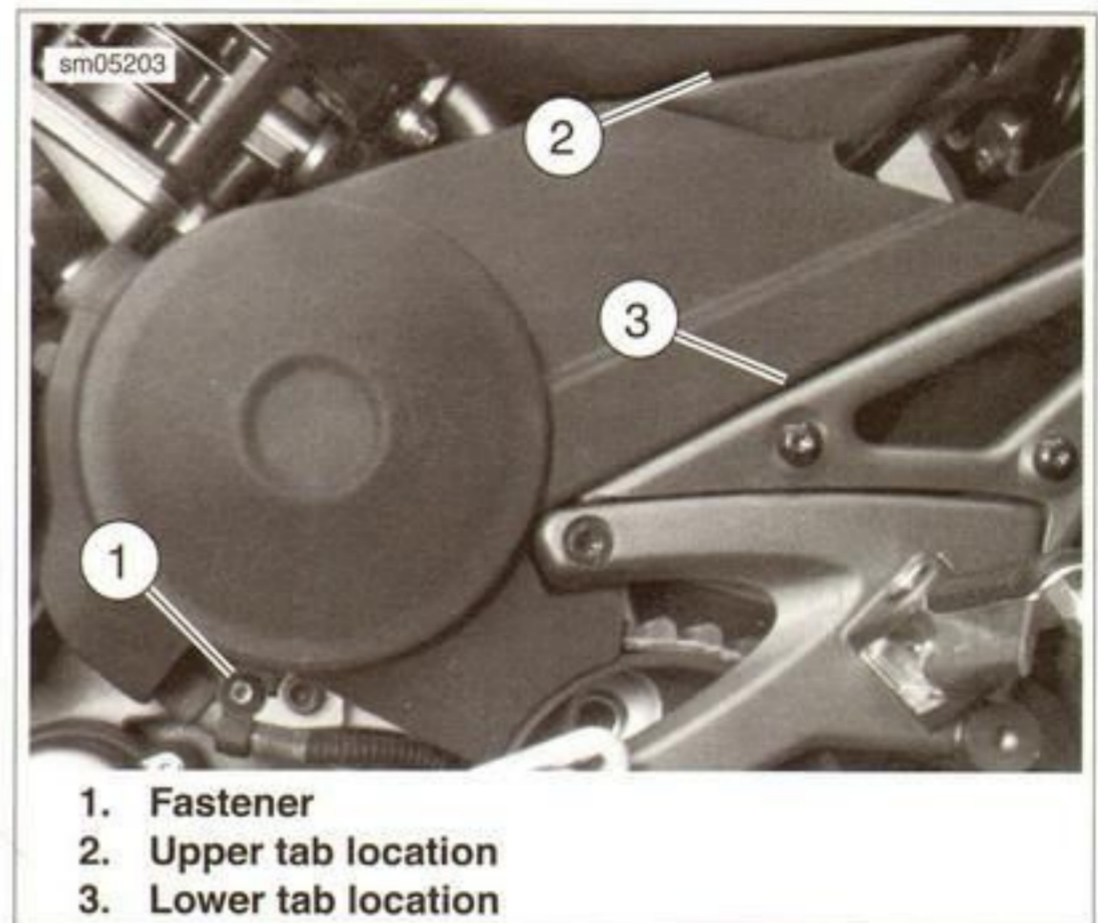

Figure 3-9. Engine Sprocket Cover
1. See Figure 3-9. Remove fastener (1) and remove engine sprocket cover.
- *See Figure 3-9. In next step, be sure upper tab (2) of engine sprocket cover engages frame and lower tab (3) engages rider footpeg support.*
5. Install engine sprocket cover. Install engine sprocket cover fastener (1) and tighten to 13.0-14.5 Nm (115-128 in-lbs).